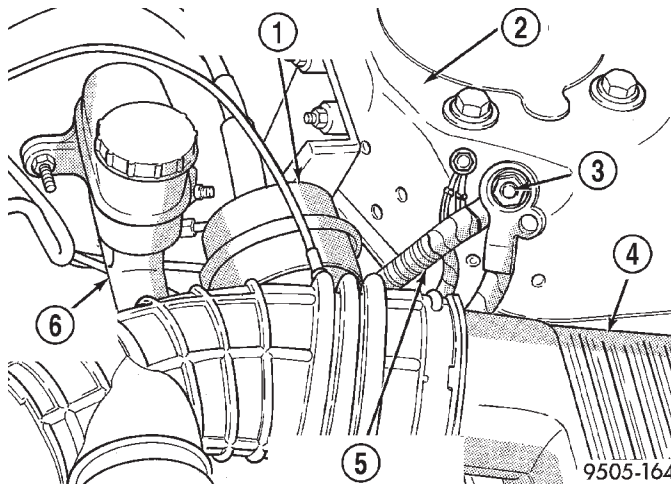

Fig. 62 Ground Cable Attachment To Strut Tower
(1) Remove the remote ground cable from the ground stud located on the left shock tower (Fig. 62).